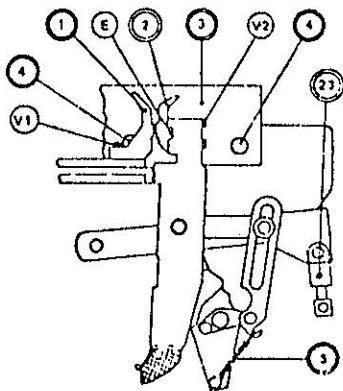

Fig. 26
- B. **Arcing Contacts and Insulating Strips (Fig. 26).**
1. **Arcing contacts.** With breaker in open position, loosen retaining bolts V1 and remove contact by sliding forward. Replace with new contact leaving retaining bolt V1 loose. Close breaker and loosen bolt V2 (two per contact) approximately 1.5 mm (0.059 inch) or until contact clears locating boss E, then remove by lifting upwards. Replace with new contact, checking to see that contact seats in locating boss before tightening bolt V2. With 0.9 mm (0.035 inch) feeler gauge, position contact (1) and tighten bolt V1.